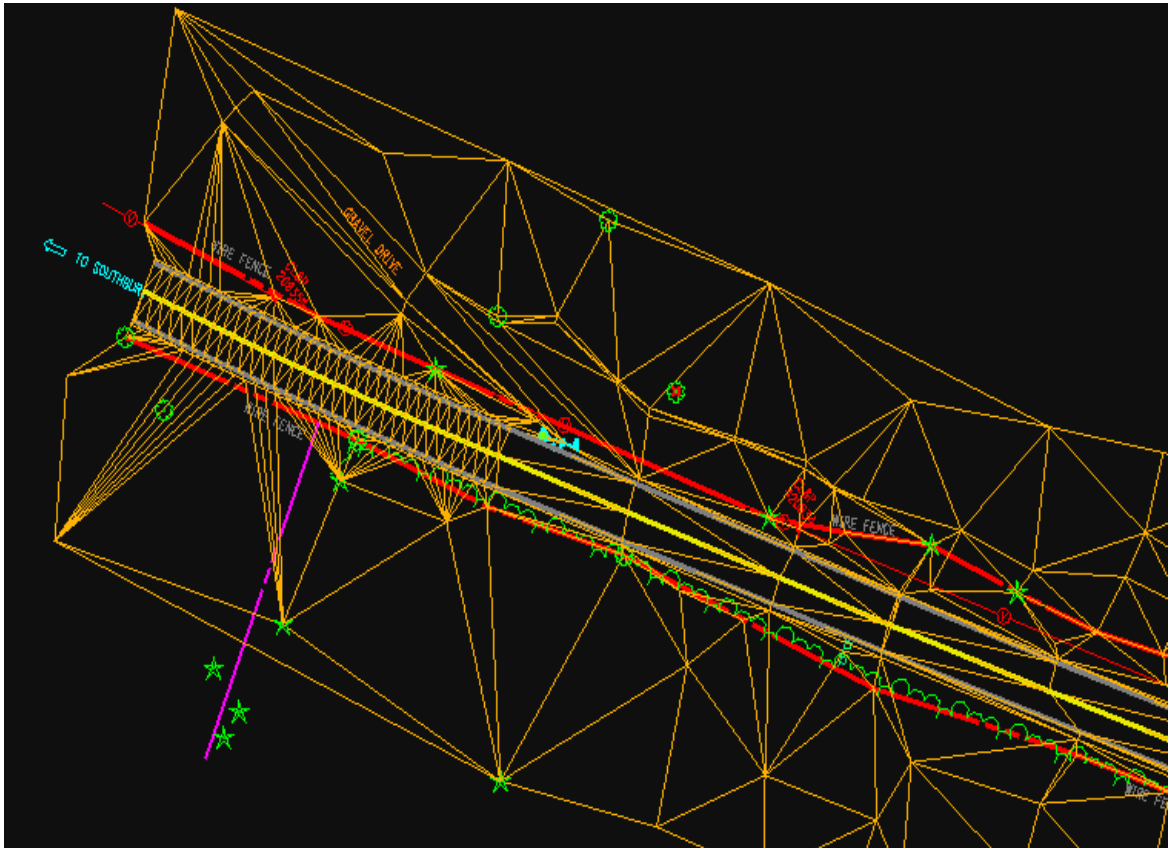

Figure 2-4 MicroStation View of InRoads Generated Triangles
G. In the View Triangles Box for **Surface:** select **existing**. Click **Apply**, then **Close**. In Figure 2-4, notice the triangles surrounding the roadway.